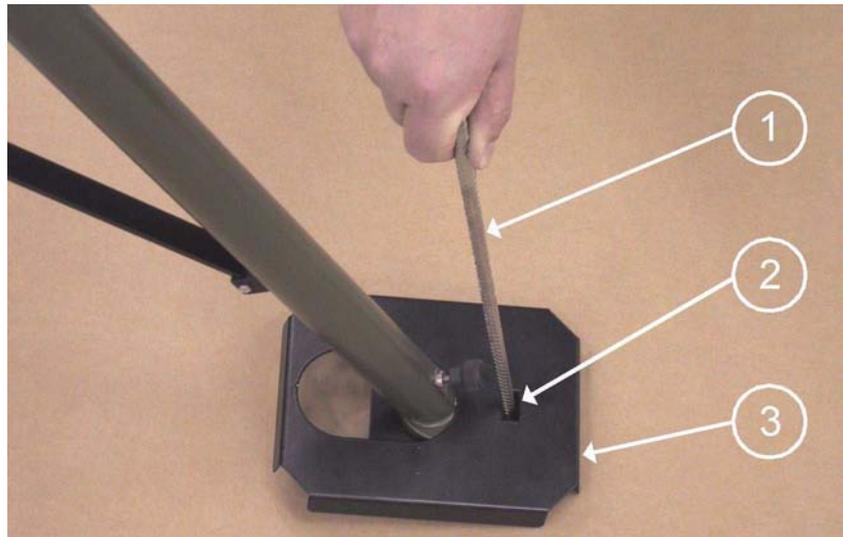

Figure 43 Attaching Foot Pads
9. If the ground is soft (for example, sand or snow), attach the foot pads (number 3 in Figure 43 on page 53) to the tripod legs. After you have attached the foot pad, insert a peg (1) through the hole (3) to the ground to secure the leg.